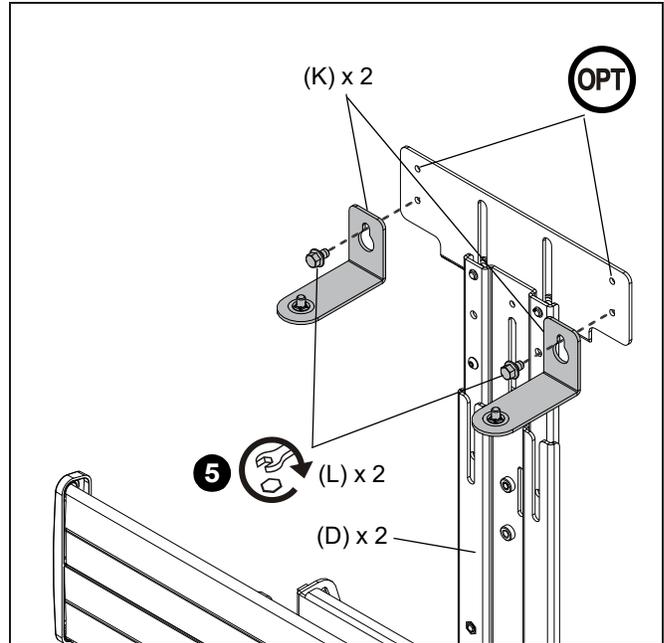

Figure 18
5. Install two interface assemblies (K) to the lower adjustment assembly (J) using two 1/4-20 x 3/8" hex head screws (L). (See Figure 18)